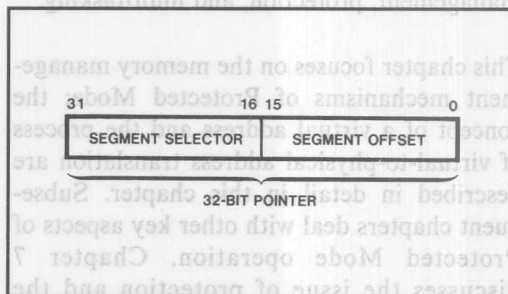

Figure 6-1. 32-Bit Virtual Address
In Protected Mode, application programs deal exclusively with virtual addresses; programs have no access whatsoever to the actual physical addresses generated by the processor. As discussed in Chapter 2, an address is specified by a program in terms of two components: (1) a 16-bit effective address offset that determines the displacement, in bytes, of a location within a segment; and (2) a 16-bit segment selector that uniquely references a particular segment. Jointly, these two components constitute a complete 32-bit address (pointer data type), as shown in figure 6-1.